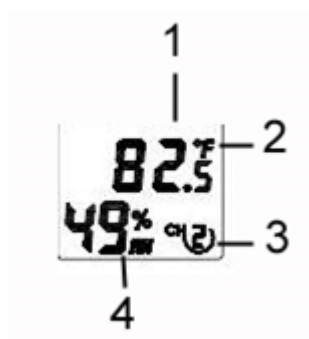

Figure 3
6. Verify the correct channel number (CH) and temperature units of measure (°F vs. °C) are on the display, as shown in Figure 3.